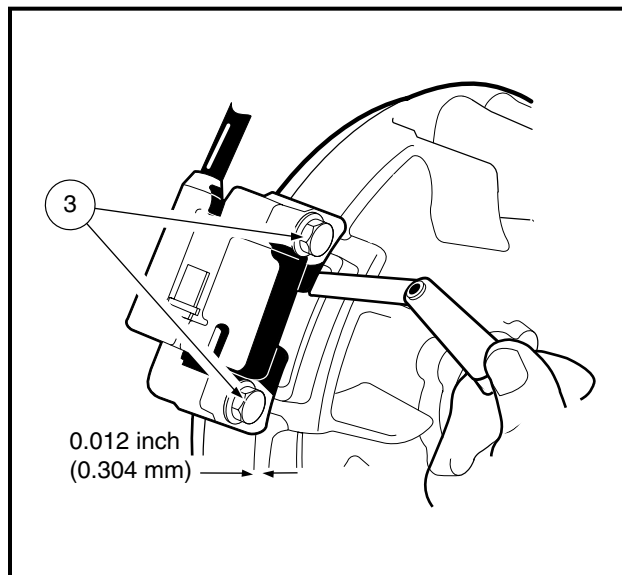

Figure 3-57 Adjust Ignition Coil Air Gap
2. Lightly tighten the two bolts (3) while using a bronze feeler gauge to maintain the ignition coil air gap to 0.012 inch (0.304 mm) (**Figure 3-57, Page 3-29**).